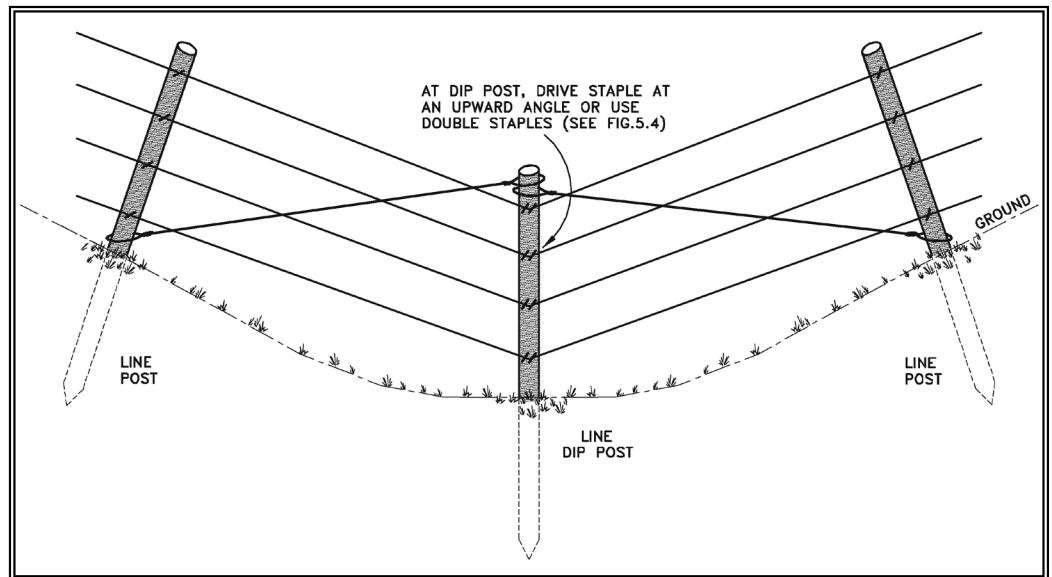

Figure 7 Wire Bracing a Dip Post
- wire from the top of the gully post to the bottom on each neighbouring line post as shown in Figure 7, below